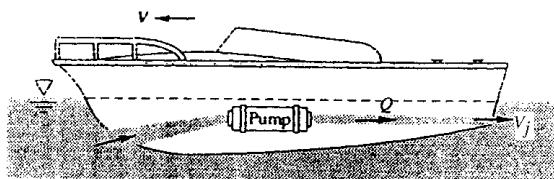

Fig. P3.88
**3.88** The boat in Fig. P3.88 is jet-propelled by a pump which develops a volume flow rate  $Q$  and ejects water out the stern at velocity  $V_j$ . If the boat drag force is  $F = kV^2$ , where  $k$  is a constant, develop a formula for the steady forward speed  $V$  of the boat.